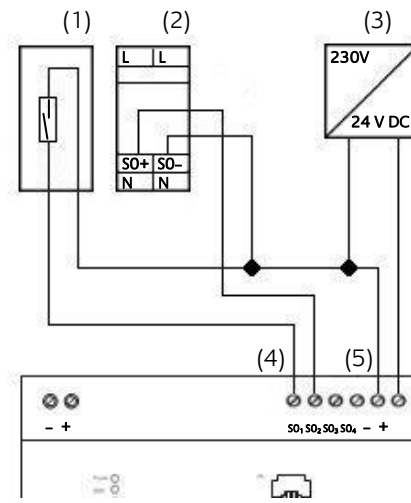

Figure 2: Connection diagram S0
- When using S0: Connect 24 V DC with the connecting terminal for the voltage supply of the S0 interface (figure 2, 5). **Do not connect 230 V!**
- Connect S0 devices to S0 interfaces as follows (see figure 2, 4).